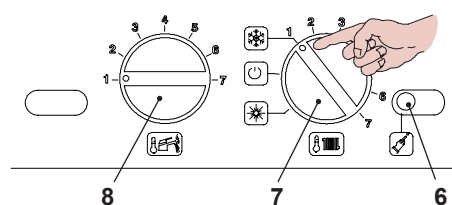
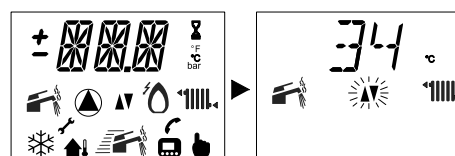

Figure 15.21
Figure 15.22
- Position the handles 8 and 7 indicated in Figure 15.21.
- To set the K coefficient, which is determined from Figure 15.22 access programming by pressing the reset button 6 in Figure 15.21 for 15 seconds until parameter **P01** appears on the LCD display; the following will appear on the LCD display (the
- Press the reset button 6, in Figure 15.21, to scroll the various parameters until reaching the valid parameter **P15** for setting the K coefficient; the following will appear on the LCD display (the sequence **P15** alternates with **00**).
- Set the value by turning knob 8 in Figure 15.21 from a minimum of **30** (the sequence **P15** alternates with **30**)